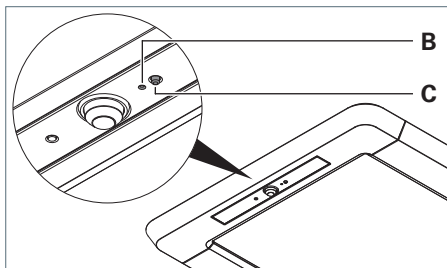
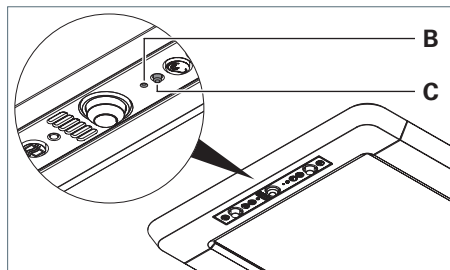

Fig. 34: Assigning the control element, version R.
Fig. 35: Assigning the control element, version RX.
- Press the key in the opening **B** with the end of opened paper clip, see Fig. 34 and see Fig. 35.
- Press the key **C**, see Fig. 34 and see Fig. 35.
- Press the key **C** and keep this key pressed, see Fig. 34 and see Fig. 35.